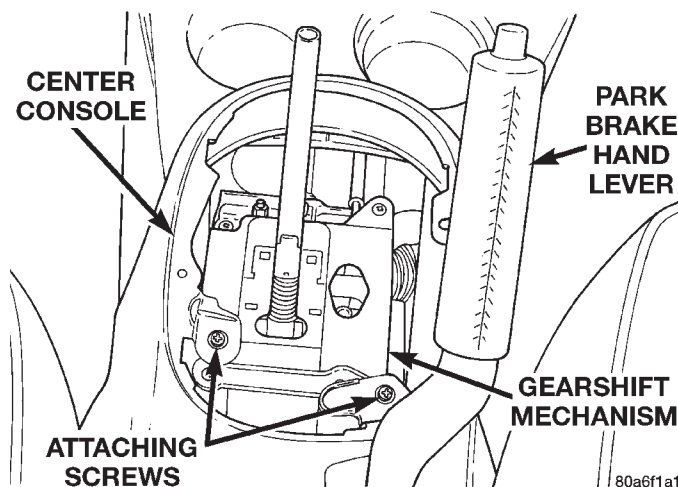
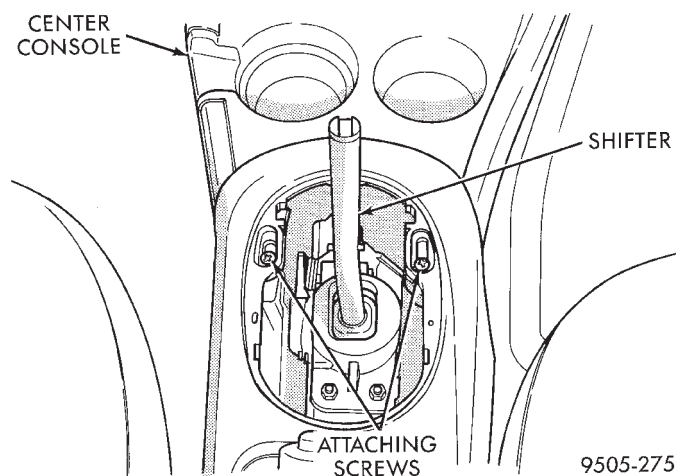

**Fig. 140 Center Console Front Attaching Screws(Automatic)
Fig. 141 Center Console Front Attaching Screws(Manual)
(4) Remove the 2 screws attaching the front of the center console to the gear selector or shifter (Fig. 140) or (Fig. 141).
(17) Check the rear wheels of the vehicle with the park brake lever fully released, they should rotate freely without dragging.
(18) After the park brake cable tension has been properly adjusted, check for free play in park brake lever. Park brake hand lever should feel firm at all clicks, with a maximum of 21 clicks of lever travel possible.
(19) Install the center console back in the vehicle.
(20) Install the 2 screws attaching the front of the center console (Fig. 140) or (Fig. 141).